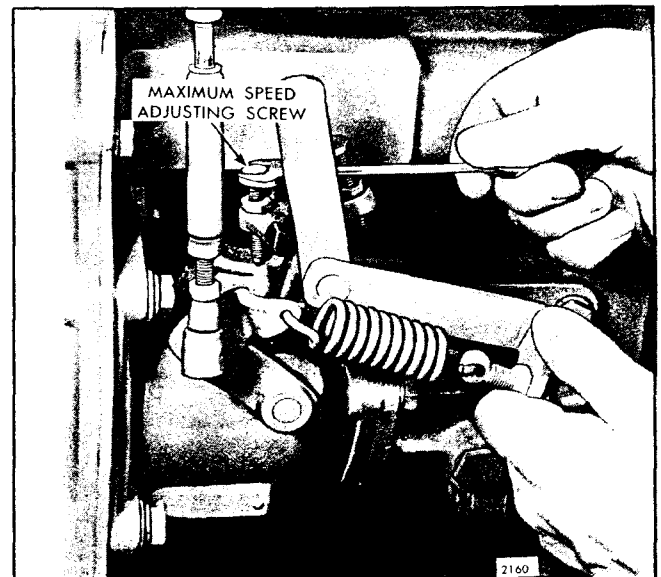

Fig. 4 - Adjusting Maximum Speed
2. Loosen the lock nut and adjust the maximum speed adjusting screw (Fig. 4) until the desired no-load speed is obtained.